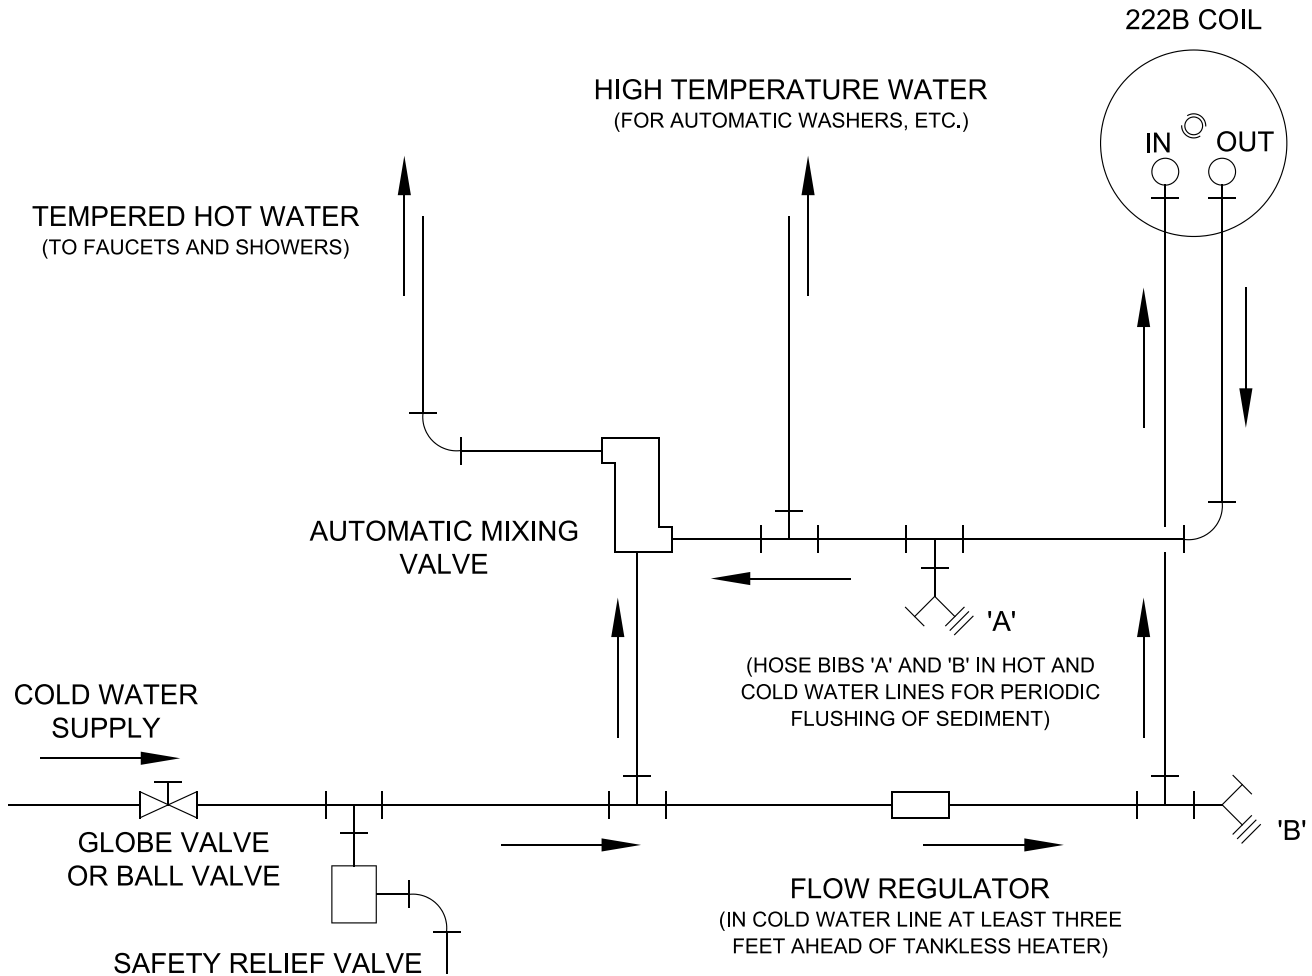

Figure 15: Schematic Tankless Water Heater Piping
- A. CONNECT TANKLESS HEATER PIPING as shown in Figure 15. See Table 8 for Tankless Heater Rating.